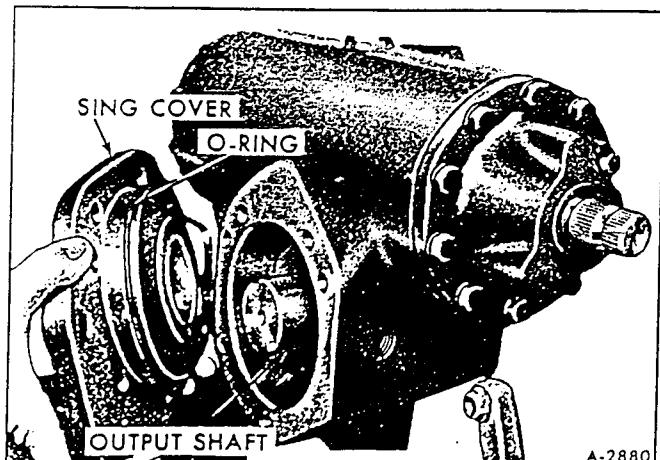

Figure 11 - Removing Housing Cover (Typical)
5. Remove Pitman shaft housing cover bolts (fig. 11). Use a soft hammer and tap on end of output shaft to loosen cover. The output shaft and pinion gear assembly may be removed with the cover.